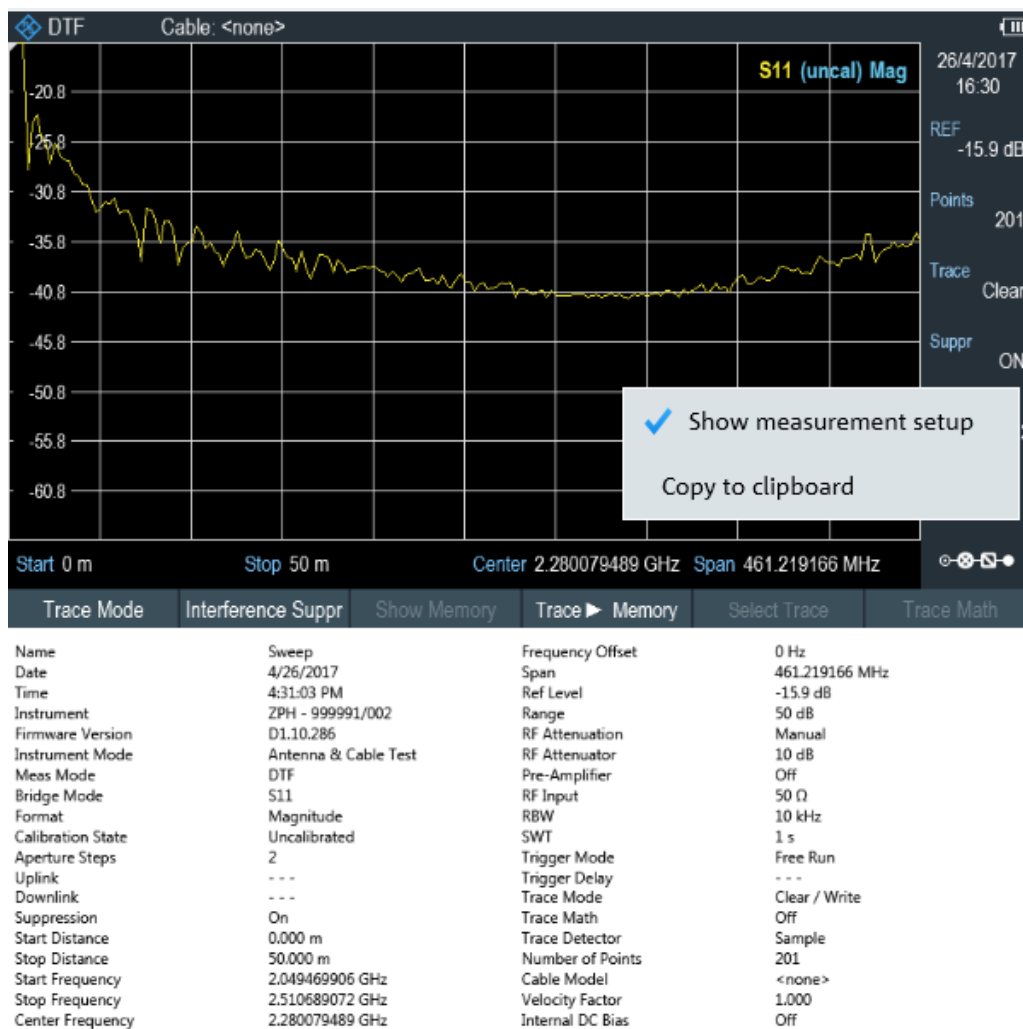

Figure 4-16: Screenshot
- "Show measurement setup" - If enabled, the instrument settings and the trace data are displayed below the screenshot. See Figure 4-16.
The "Screenshot" is used to capture the active instrument screen and display it in the trace window. See Figure 4-16.